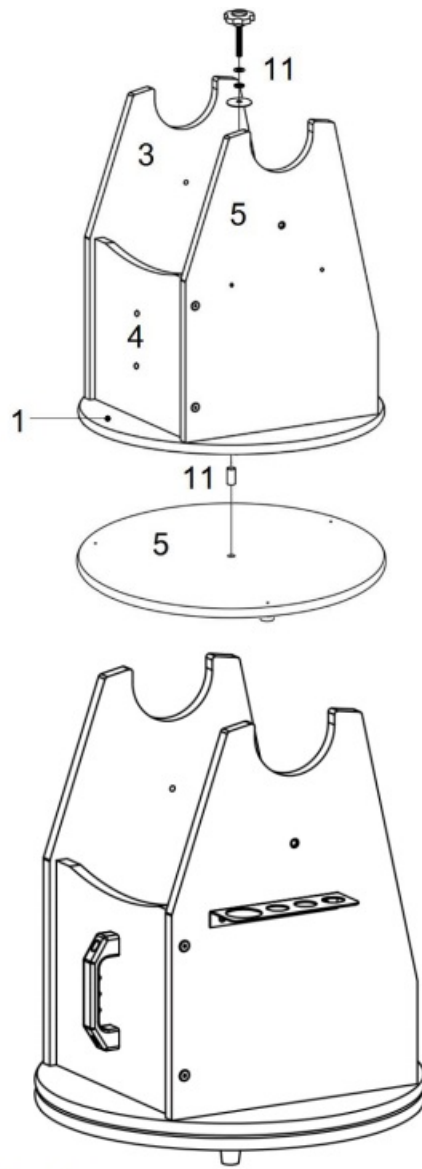

Figure 2.
5. **Step 6 – Setting the Handle #7** and eyepiece rack #6. Use the supplied screws to fix both the Handle and eyepiece rack as shown in figure 1 and figure 2.